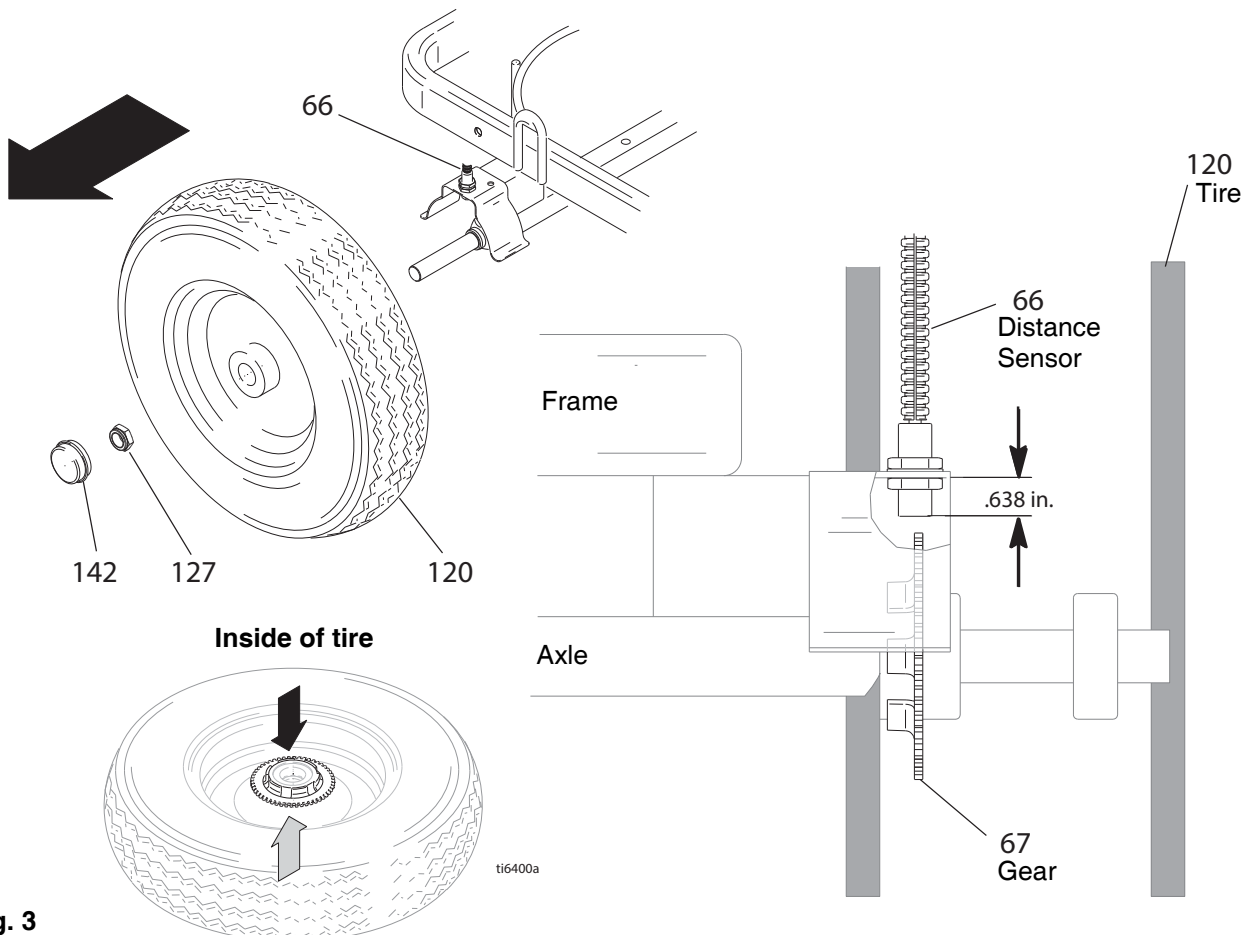

Fig. 3
- 2 Fig. 3. Remove dust cap (142) from wheel. Remove nut (127).
- 3 Remove wheel (120) from LineLazer.
- 4 Align gear (67) with sensor.
- 5 Install wheel (120) on LineLazer.
- 6 Install nut (127) until tight, then back off 1/4 turn. Install dust cap (142) on wheel.